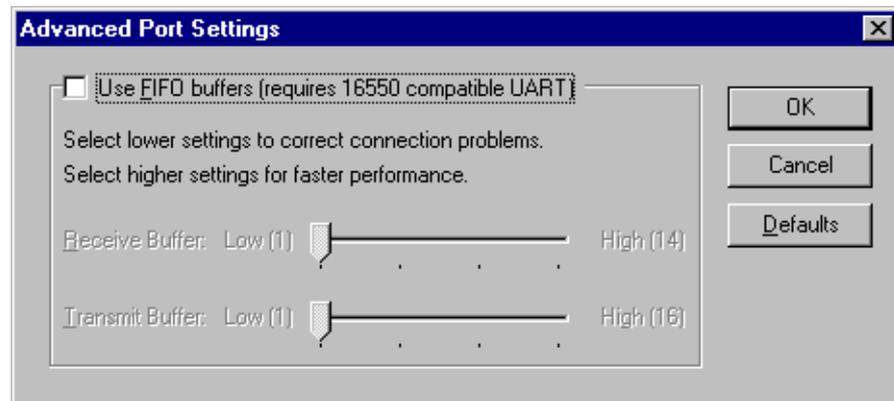

Fig. 7: Make sure to switch the FIFO buffer off before using a serial interface.
- Serial interface: Absolutely switch off the UART FIFO buffer. To do so, select the menu „File> Settings> COM1“ (or ...COM2) and click „Advanced...“. Thereupon, a window opens (see Fig. 7). Make sure, that „Use FIFO buffers“ is disabled.